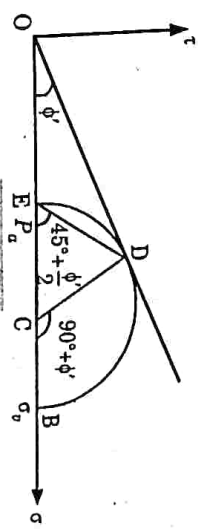

Fig. 5.2.2.
8. Fig. 5.2.2 shows the Mohr circle when active conditions are developed. Point E represents the active condition.
9. From Fig. 5.2.2,